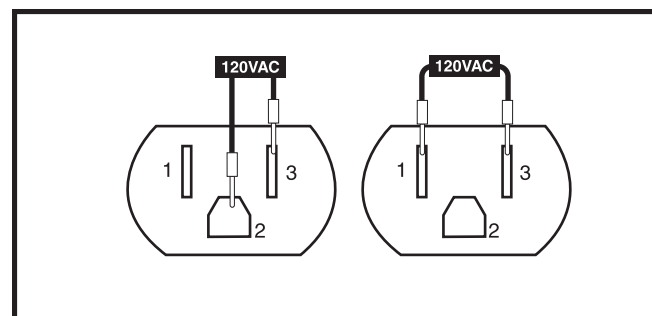

Figure 30. Electrical Outlet
23. Measure voltage across pin 2 and pin 3 and across pin 1 and pin 3 on the electrical outlet. **See figure 30.**